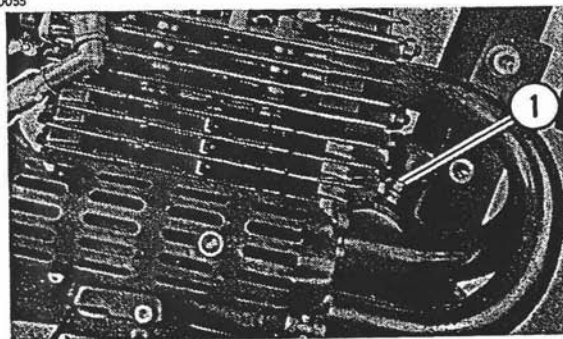

Figure 4-2. Starting Motor Power
Step 7. See Figure 4-2. Check that power lead (1) is securely connected to starting motor. Clean and tighten lead as required. If lead is missing or damaged, refer to *Service Manual* for replacement procedure.